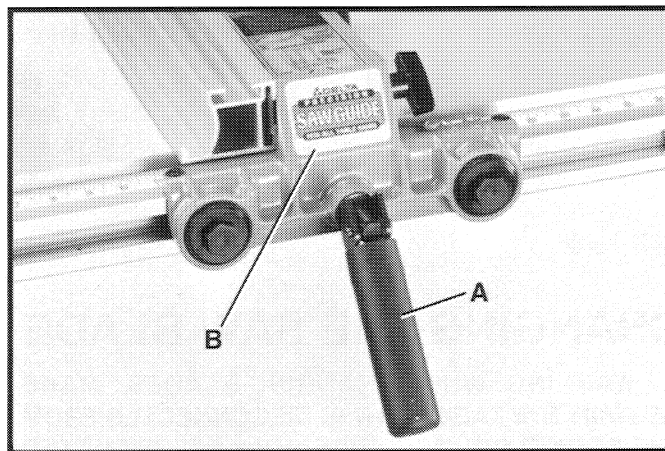
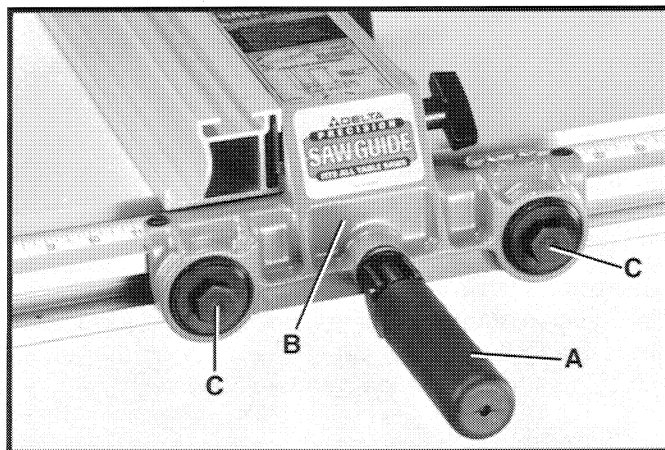

Fig. 77
Fig. 78
When the fence locking handle (A) is pushed downward, as shown in Fig. 77, the fence body (B) should be completely clamped to the guide rail. If the fence body (B) is not completely clamped to the guide rail when the handle (A) is in the position shown in Fig. 77, lift up on locking handle (A) Fig. 78, and slightly tighten two adjustment plugs (C) using arbor wrench or 7/8" wrench. Adjustment plugs (C) should be tightened an equal amount. Check to see if the fence body (B) is completely fastened to the rail by pushing down on locking lever (A). Adjust further if necessary. **IMPORTANT: AFTER ADJUSTING THE CLAMPING ACTION OF THE FENCE LOCKING HANDLE, CHECK TO SEE IF THE FENCE IS PARALLEL TO THE MITER GAGE SLOT AND ADJUST IF NECESSARY.**